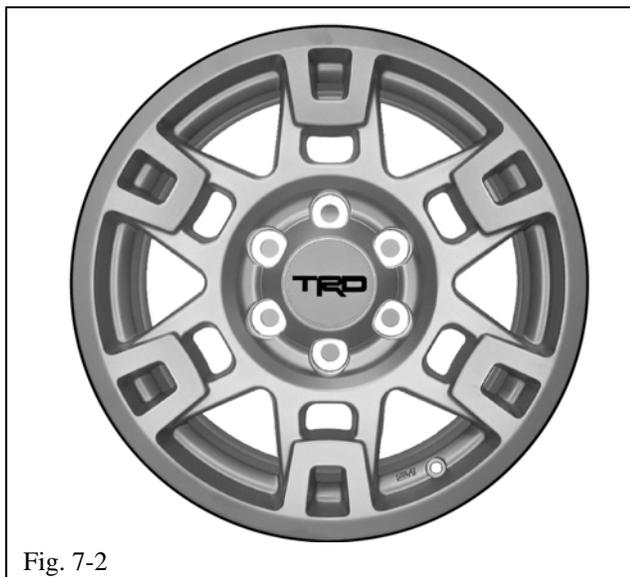

Fig. 7-2
- (a) Install TRD center caps onto all **four or five** wheels. (Fig. 7-1) Align center cap as shown in Fig 7-2 and then gently push cap into wheel until cap snaps into place.
- (b) NOTE: Be sure that the TRD text on the center cap for the FJ spare wheel is installed in it’s upright position, as shown in Fig 7-2.